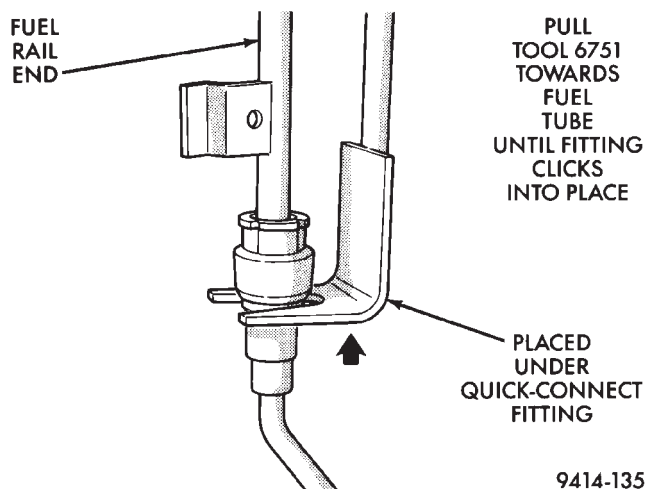

Fig. 58 Connecting Quick-Connect Fitting to Fuel Rail
(2) Lubricate the fuel tube nipple with clean 30 weight engine oil.
(3) Start the quick-connect fitting on the fuel rail nipple by hand.
(4) Place special tool 6751 below the largest diameter of the quick-connect fitting (Fig. 58).